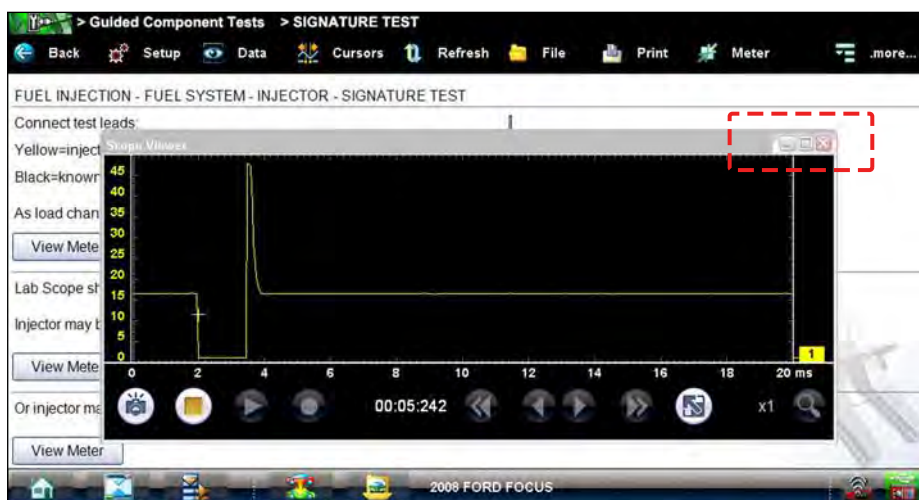

Figure 7-10 Sample meter view in a separate window
2. Select the **Meter** icon a second time and the meter open as a separate window (Figure 7-10). This window can remain open if you switch to the Scanner function and can be accessed from the Windows toolbar at the bottom of the screen. You can also resize and reposition the meter window on the screen.